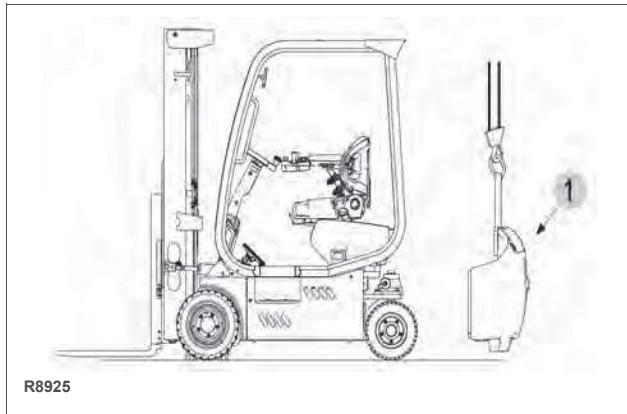

Figure 10-7 Counterweight
3. Remove the three bolts and remove the counterweight (1, Figure 10-7) from the chassis.